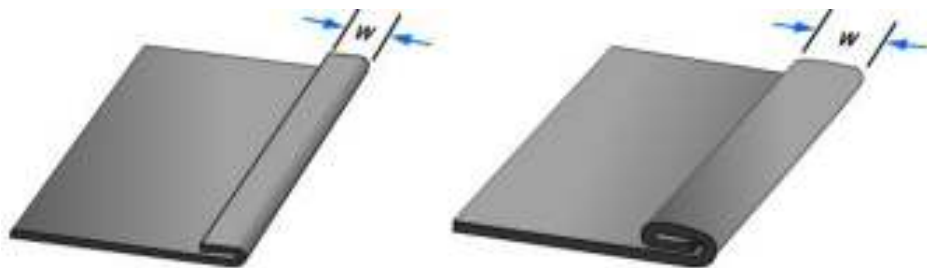

Figure 2.3. Single hem edge Figure 2.4. Double hem edge.
The **single hem edge** is shown in *Figure 2.3 below*, this edge can be made in any width. In general, the heavier the metal, the wider the hem is made. The allowance for the hem is equal to its width (W). The **double hem edge** is used when added strength is needed and when a smooth edge is required inside as well as outside. The allowance for the double-hem edge is twice the width of the hem.